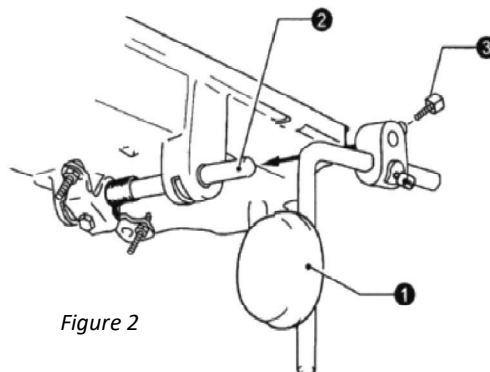

Figure 2
- Insert the anti-vibration gasket (3) two into behind angle of the oil tray (1).
- Insert the oil tray (4) into the table groove horizontally.
- Put the two cover chain bushes (5) into the table groove.
Insert the knee control block (1), hand bar and joint into the chains (2) then tighten the screws (3) lightly. See Fig.2.